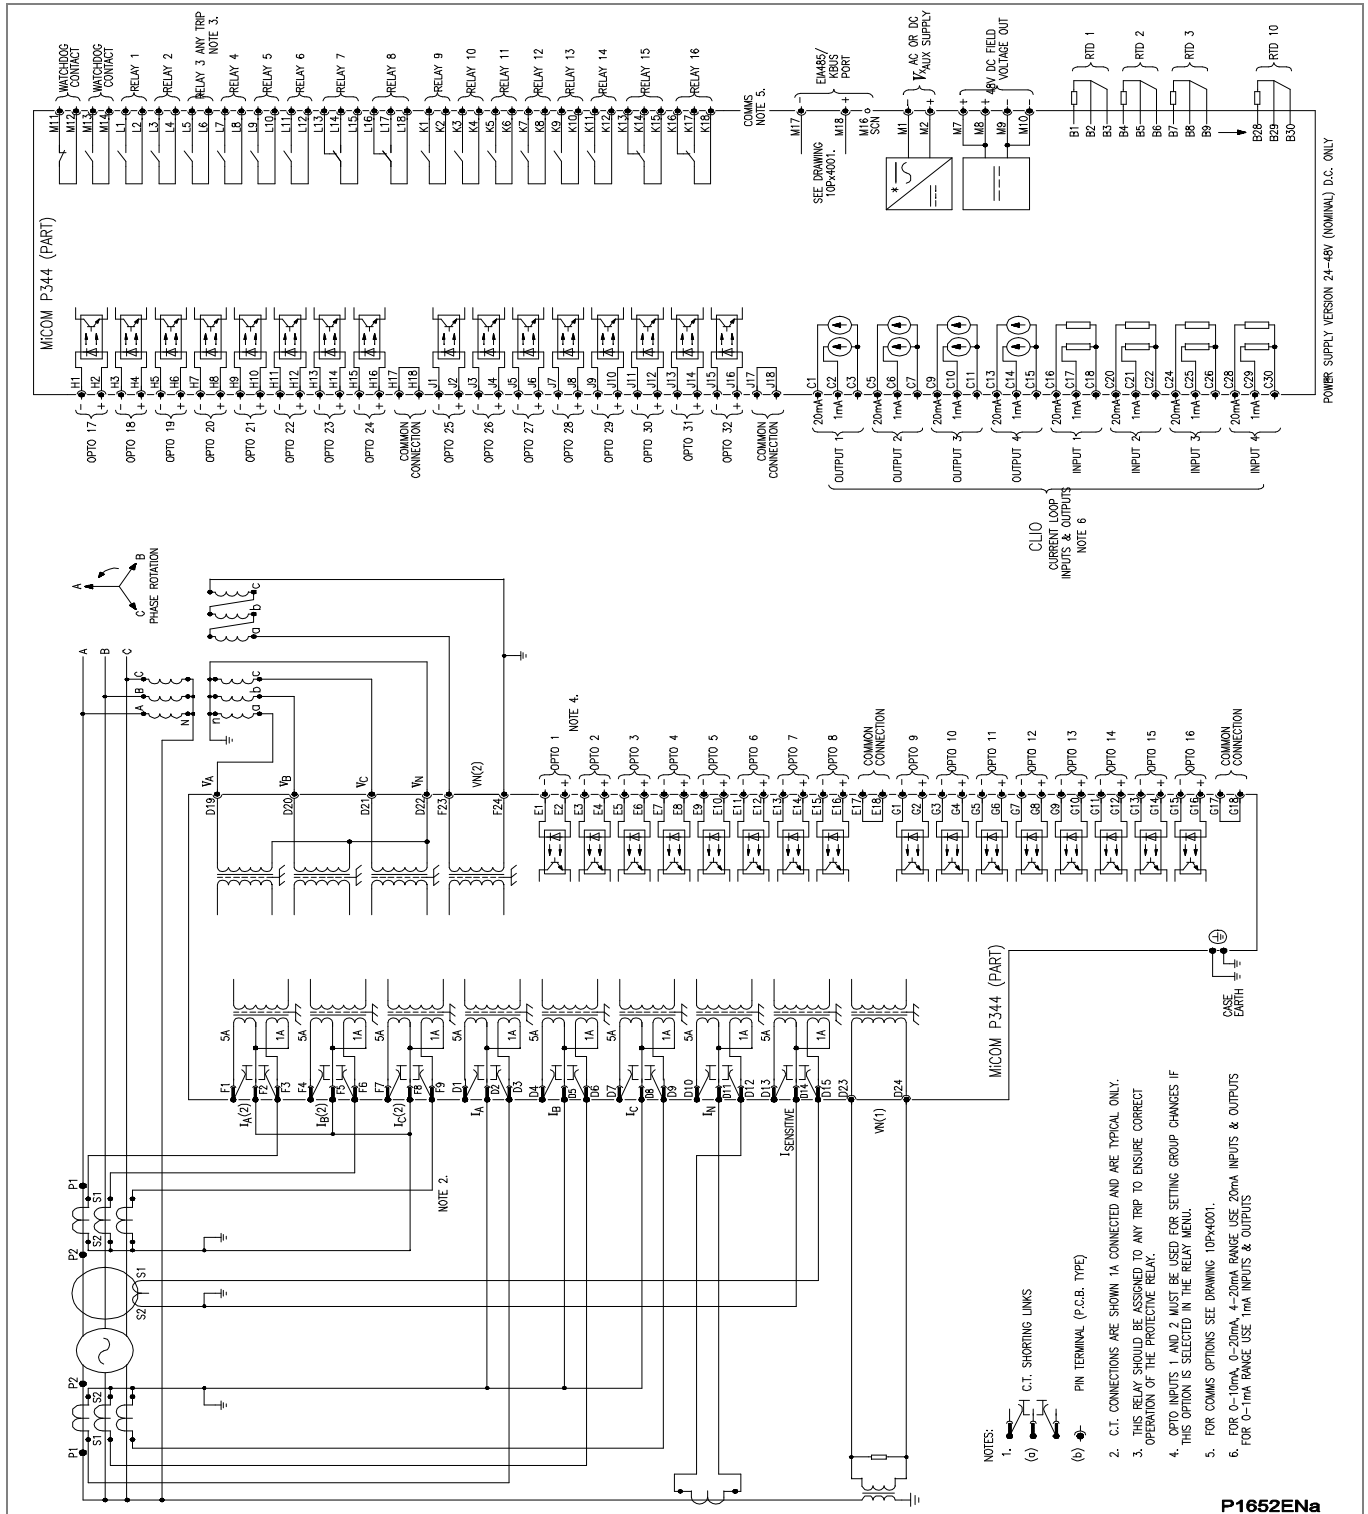

Figure 45 - P344 (80TE) with biased differential and zero sequence voltage interturn (32 I/P & 16 O/P & RTD's & CLIO)
- Figure 45 - P344 (80TE) with biased differential and zero sequence voltage interturn (32 I/P & 16 O/P & RTD's & CLIO)